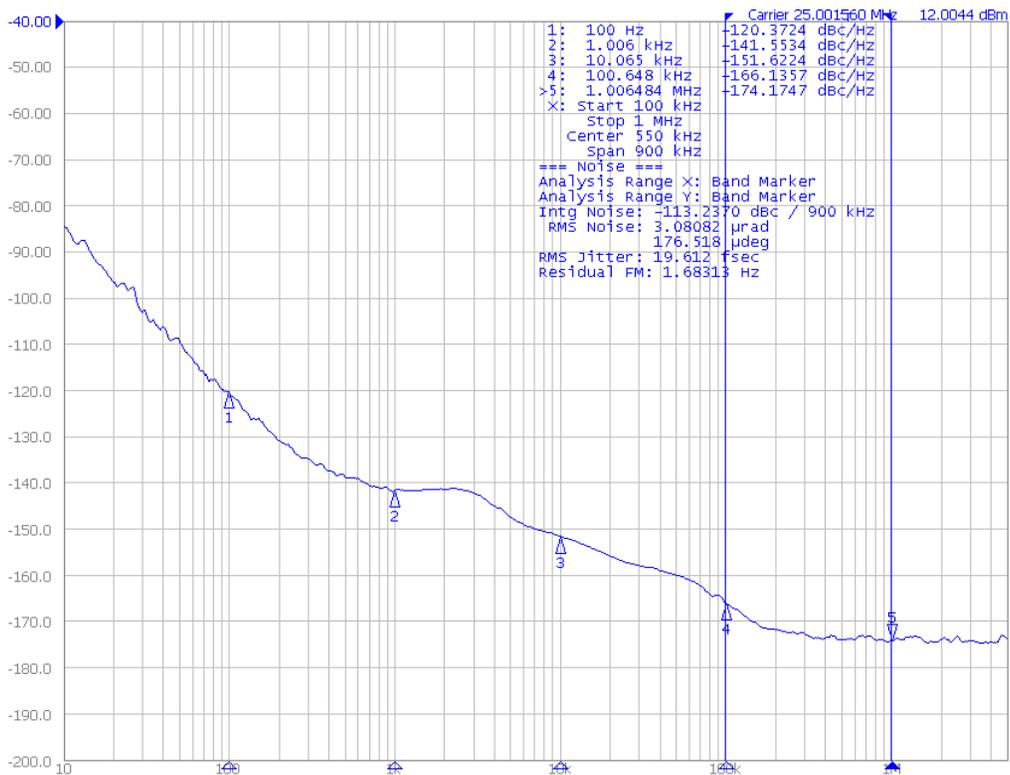

Figure 5. Typical Phase Noise Plot of the NB3H83905C Operating at 25 MHz $V_{DD} = V_{DDO} = 3.3$ V
4. Parallel terminated 50 Ω to V_{DDO}/2 (see Figure 5).